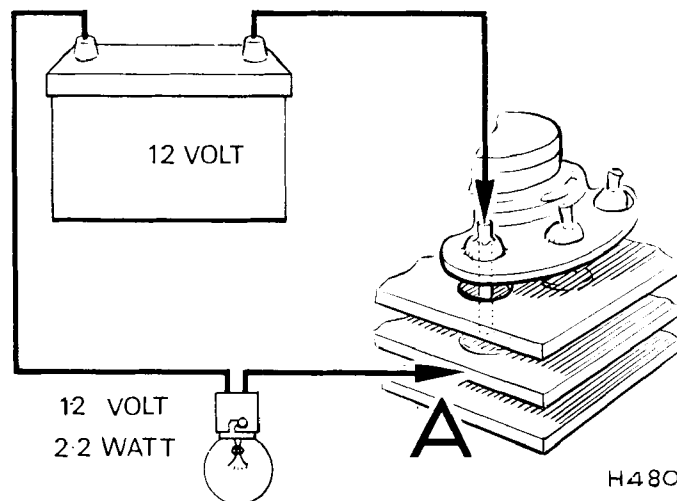

Fig. 11. Diode check
5. Provide test circuit as shown on Fig. 11.